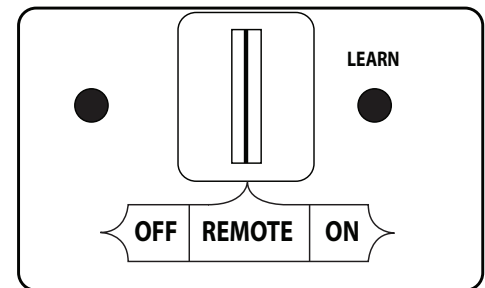

Fig. 29-1 Remote receiver detail (REMOTE)
1. Locate the 3-position switch on the remote receiver (see Fig. 29-1), and slide the switch to the **REMOTE** position.